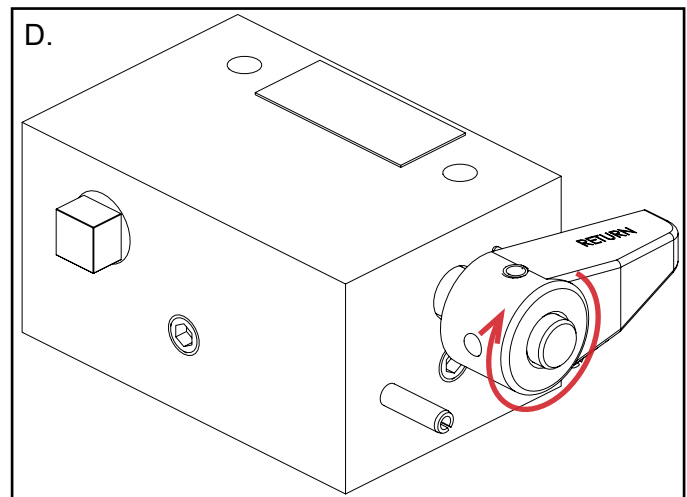

Figure 3
- D. To retract the cylinder, turn the valve control handle clockwise (CW) slowly, (See Figure 3)